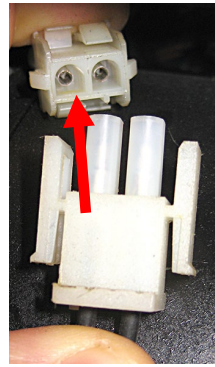

Figure 84
83. Reconnect the two (2) wire blower wiring harness (see Figure 84).